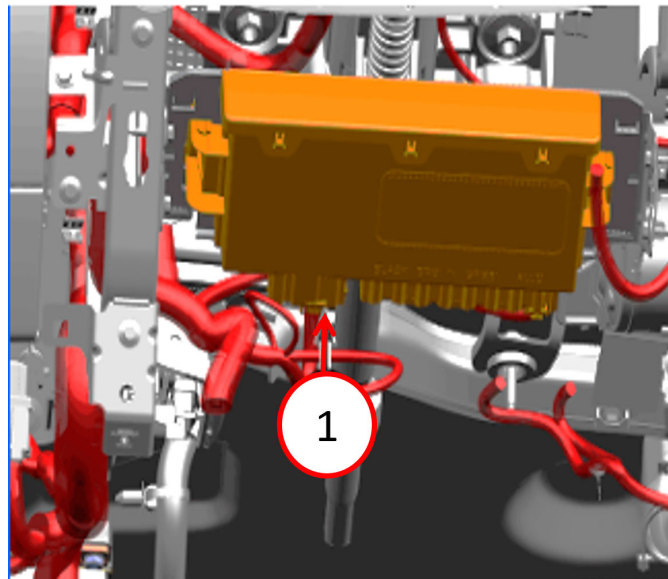

Fig. 1
3. Disconnect the VSIM connector Fig 1 for 60 seconds and reconnect.